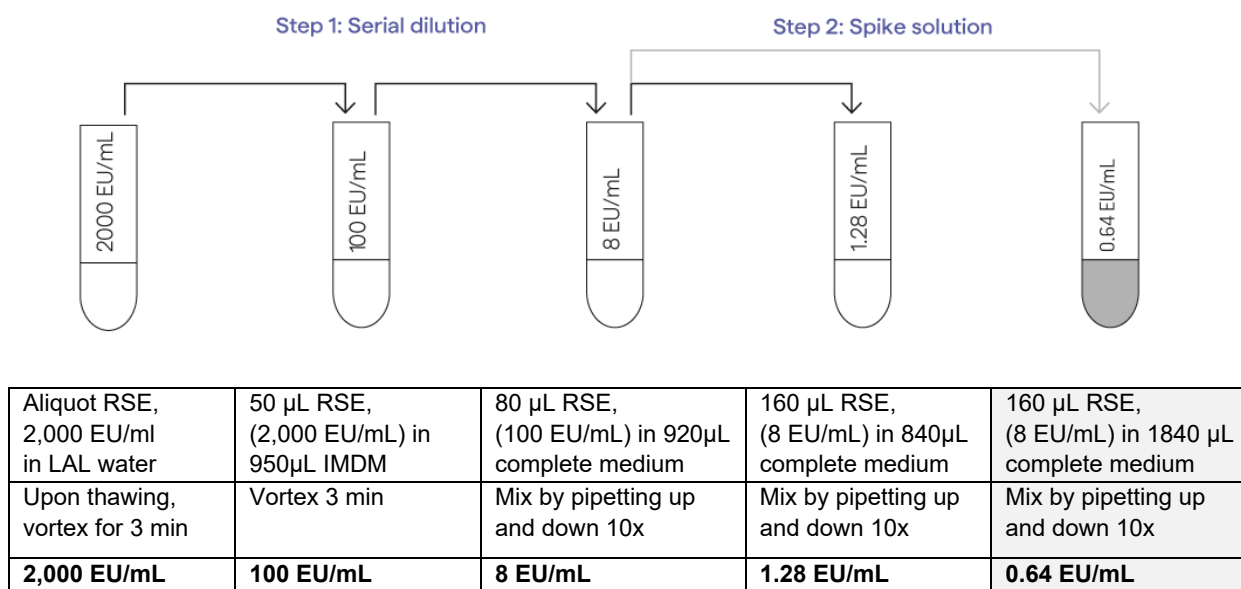

Fig. 6A: Serial dilution for method A. Prepare 1.28 EU/mL endotoxin dilution and 0.64 EU/mL spike solution.
Prepare a serial dilution starting at 1.28 EU/mL with two-fold dilutions down to 0.02 EU/mL (1.28 – 0.64 – 0.32 – 0.16 – 0.08 – 0.04 – 0.02 EU/mL), and a blank in sterile, non-pyrogenic borosilicated glass tubes (# N207) as described below (also refer to **Fig 6A**):
10. Save the remaining 8 EU/mL RSE solution prepared at step 4 for preparation of endotoxin spiked samples (see section 5.3.3 and **Fig. 6A**).